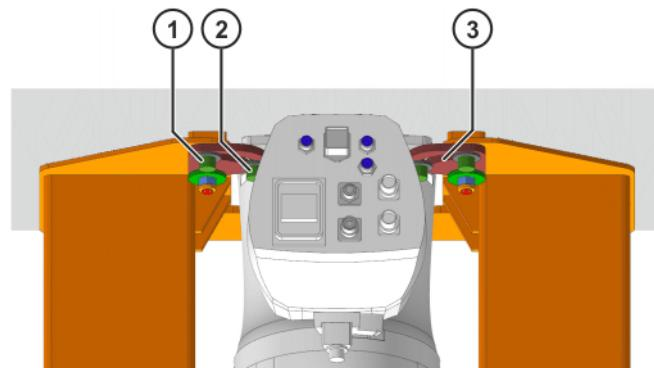

Fig. 11-8: Positioning and fastening the swivel holders
15. Position swivel holders on base frame (**>>> Fig. 11-8**).